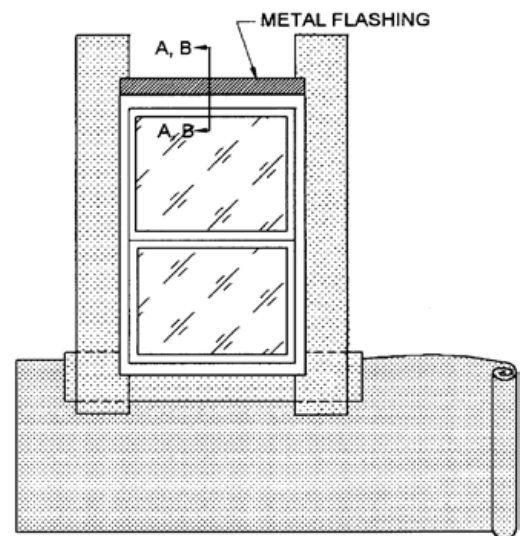

Fig. 12.1
1. Install rolls horizontally in a shingle fashion working from bottom to top. Each succeeding course should overlap the previous course 2 in. (51mm) minimum or in accordance with manufacturer’s instructions. Parex USA suggests marking the location of the sheathing board joints on the Water-Resistive Barrier as you proceed up the wall. These markings can be used as a reference to prevent the alignment of the insulation board joints and the sheathing board joints. **NOTE:** The strips of Water-Resistive Barrier previously installed at the sill and jambs overlap the Water-Resistive Barrier below the sill for positive drainage (Fig 12.1).